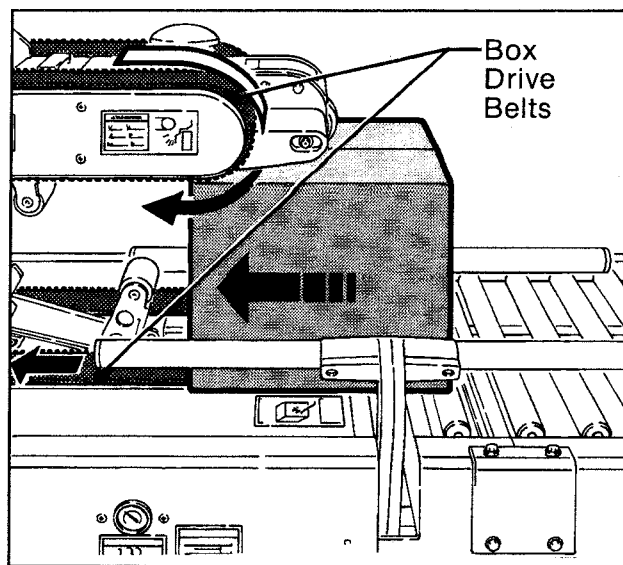

Figure 2-20 - Drive Belts
3. Once the box is pushed under the upper taping head, the upper taping head valve lever is released causing the upper drive assembly to descend onto the box top, as shown in Figure 2-20, allowing the drive belts to convey the box through the upper and lower taping heads for application of the tape seals.